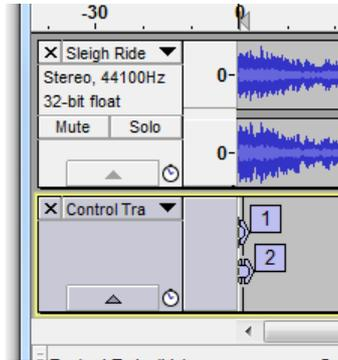

Figure 2-9, Labels on the Control Track
- 9) Return to the main AREMBE Audacity window without closing the External I/O Sequencer window, and note that the Control Track now has two labels in it, marked 1 and 2, as shown in figure 2-9.